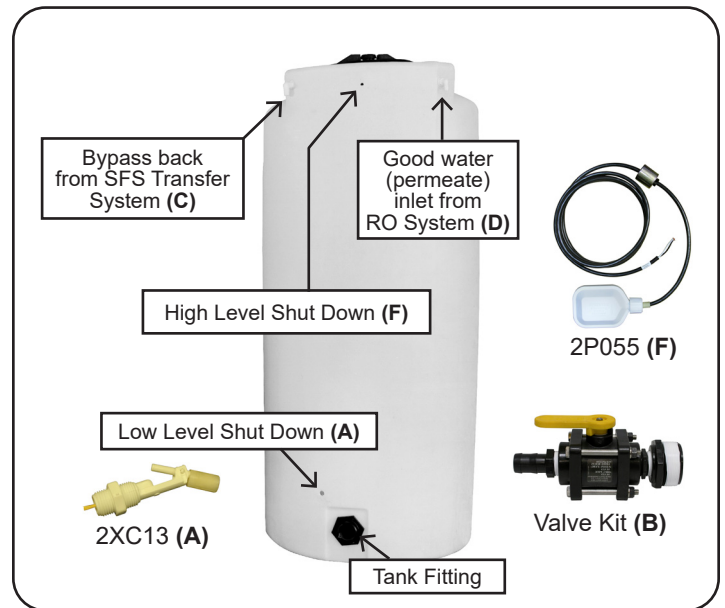

figure 3
1. Install 2" Valve Kit **(B)** onto tank fitting. **(Fig. 3)**
3. Open tank lid and feed wire end of float switch (2P055) from inside of tank through the grey strain relief fitting labeled **(F)**. **(Fig. 3)**
5. Connect the permeate (spot-free) hose **(D)** on the RO250 production unit to the hose barb labeled **(D)** on the tank. **(Fig. 3)**